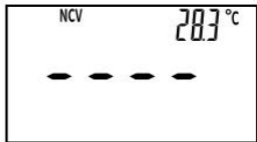

Figure 4
2. Move the NCV sensor at the "  " mark on the meter clamp close to the object to be tested. When the meter detects electric field generated by ac voltage, the red LED on the meter will flash and the meter will indicate the intensity of the electric field being detected. The intensity of the electric field being detected is indicated by the number of the bar-graph segments shown at the vertical center of the display (see Figure 4), the flashing rate of the red LED, and the beeping rate of the built-in buzzer. The higher the intensity of the electric field is detected, the larger the number of the bar-graph segments shown on display, the faster the flashing rate of the red LED and beeping rate of the buzzer.